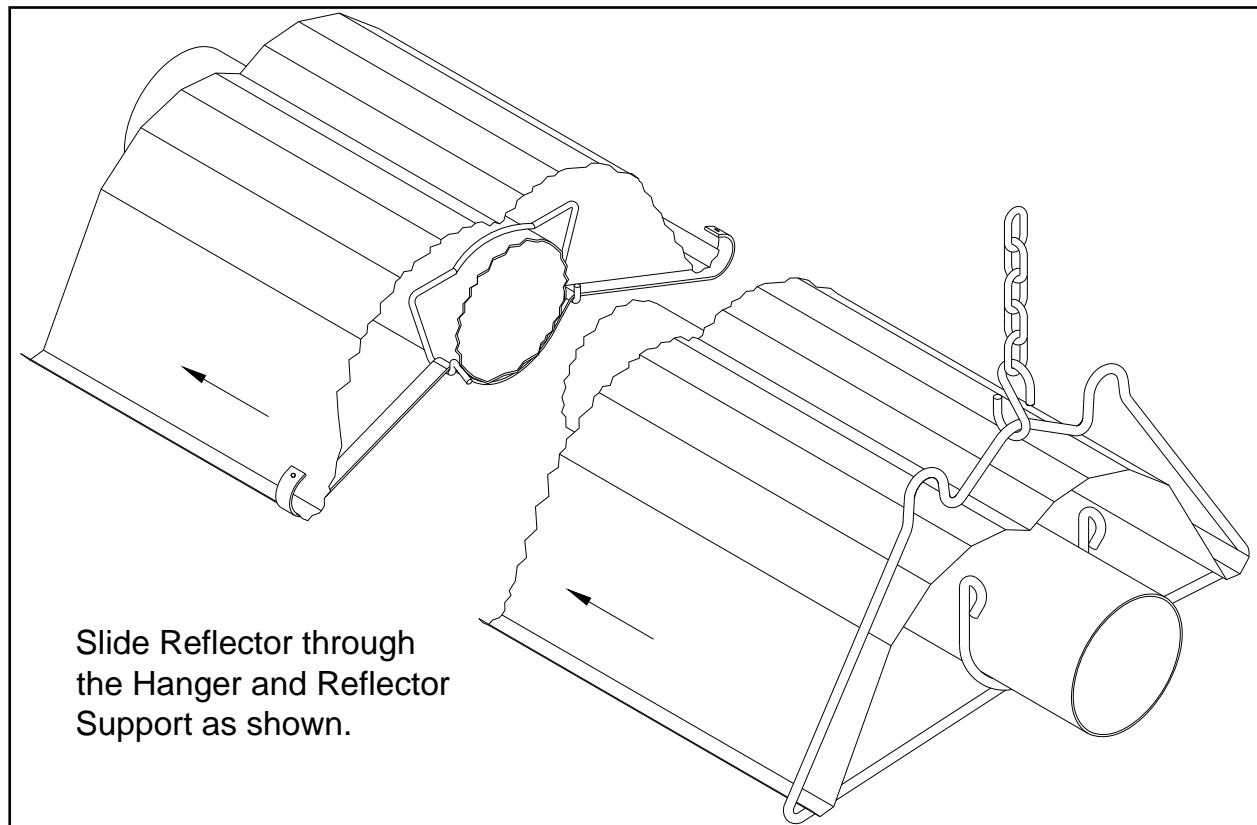

Figure 13: Reflector Installation
- Slide a reflector section into place within the support hanger. (Figure 13).